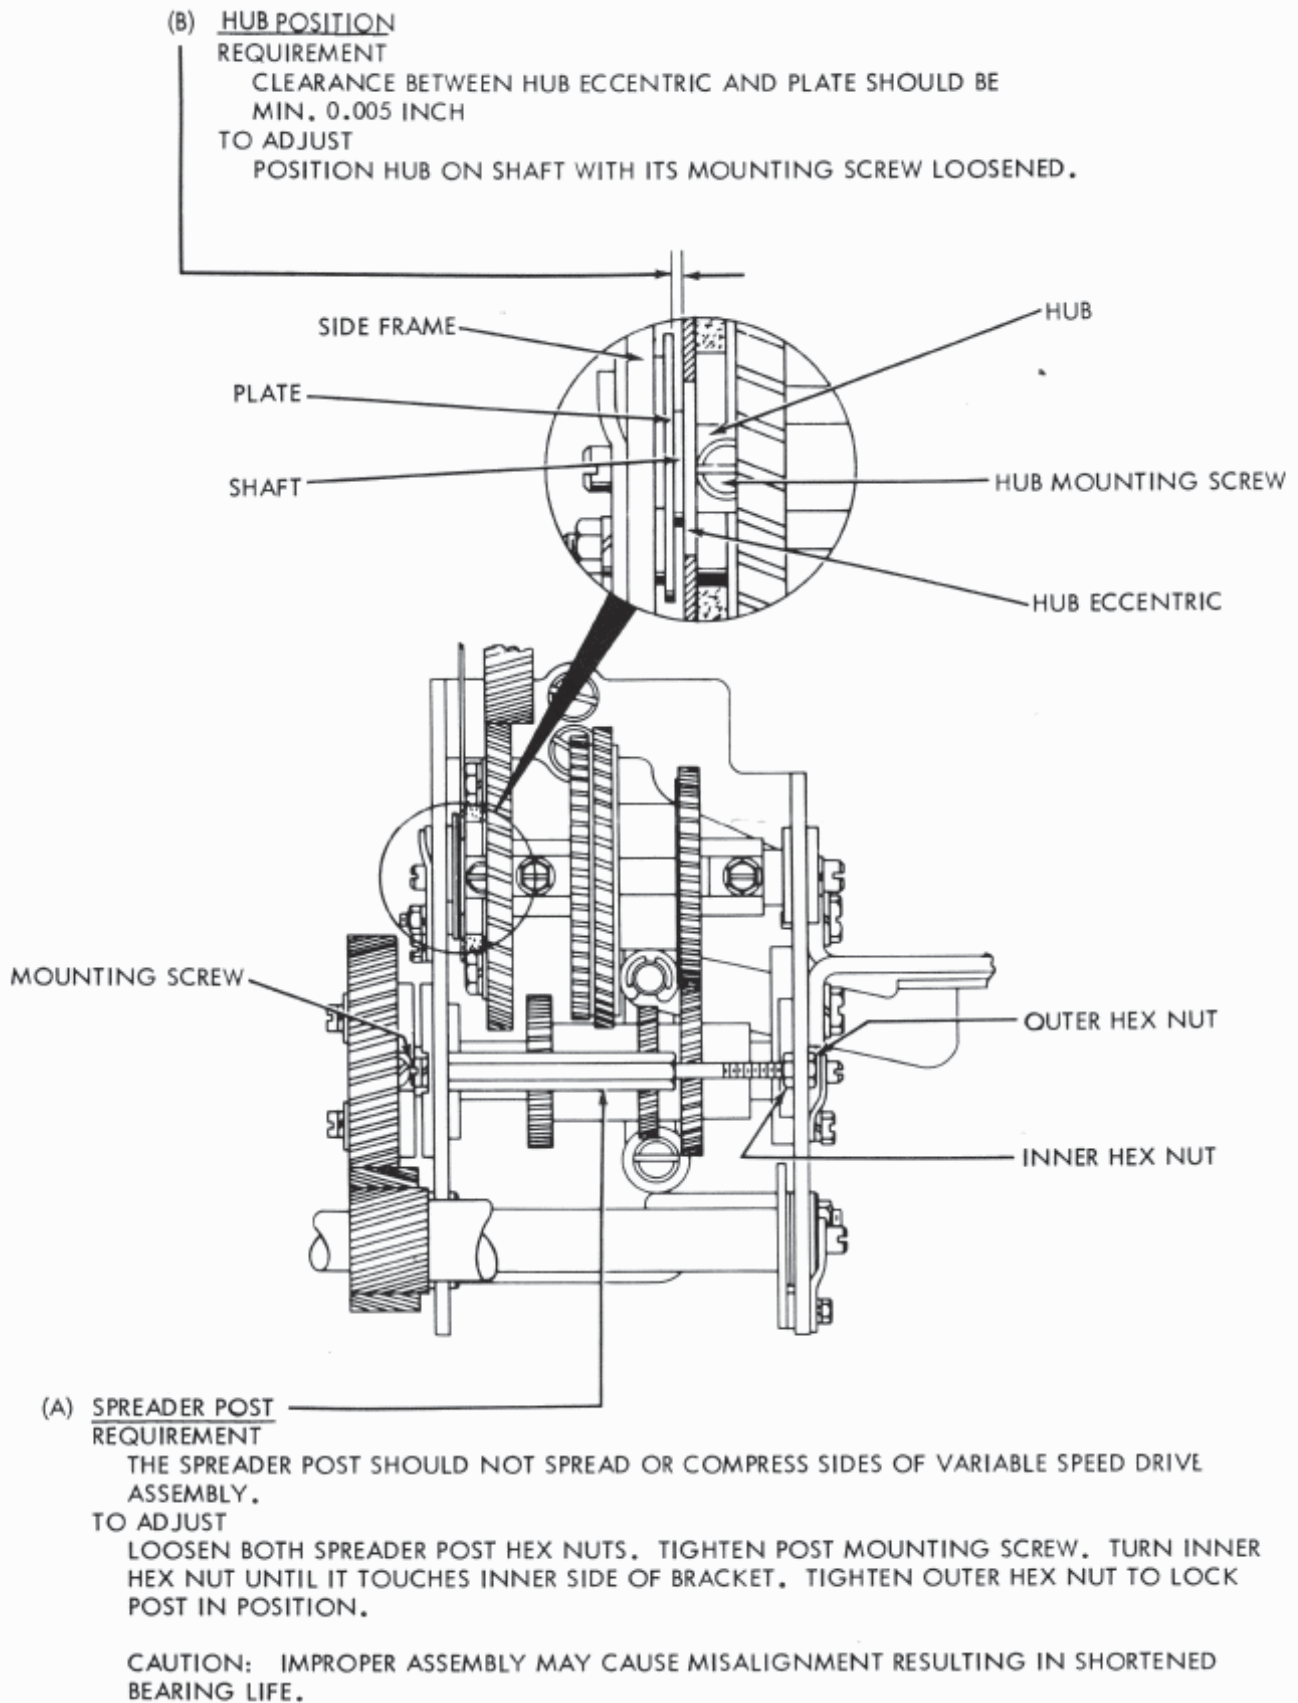

FIGURE 5
(3) Spreader Post Adjustment (Figure 5)
(4) Hub Adjustment (Figure 5)